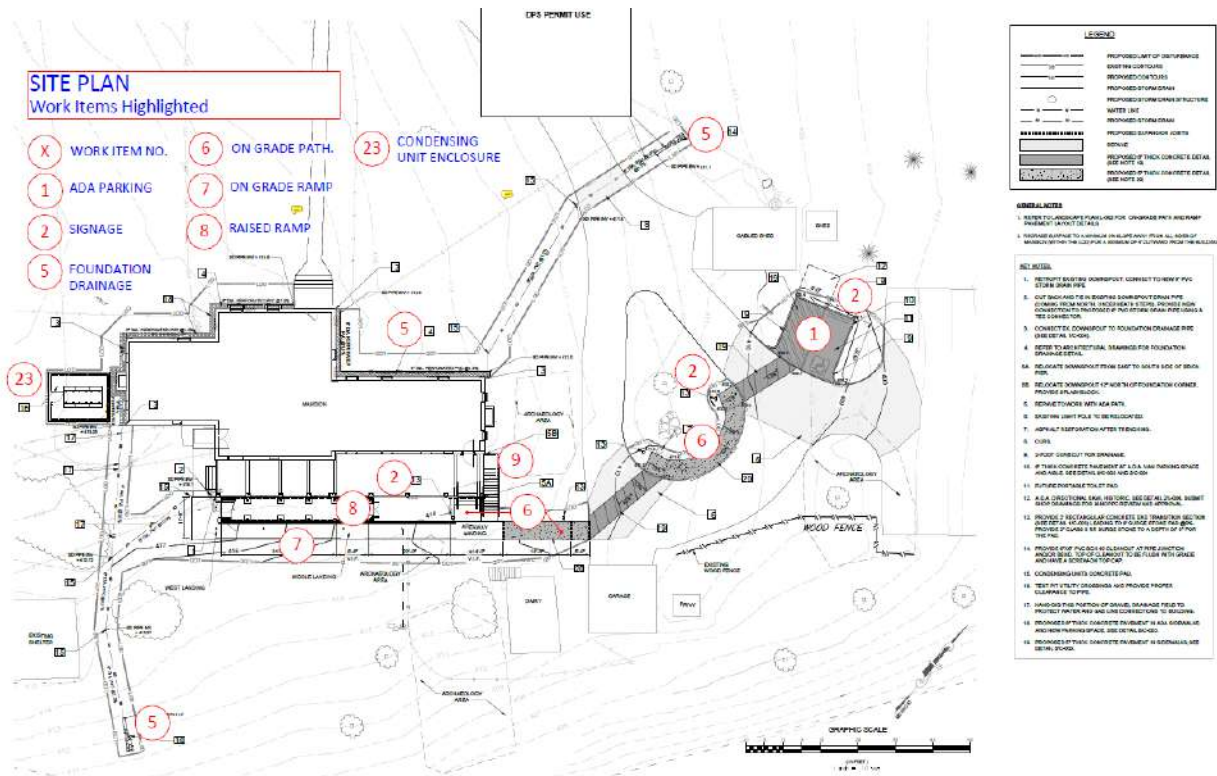

Figure 2: Proposed site plan with work items highlighted.
- a van accessible parking space and adjacent access aisle with signage (Work Items 1 and 2; *Figure 2*);
- an accessible path from the ADA accessible space to the rear porch with signage (Work Items 2 and 6, *Figure 2*);